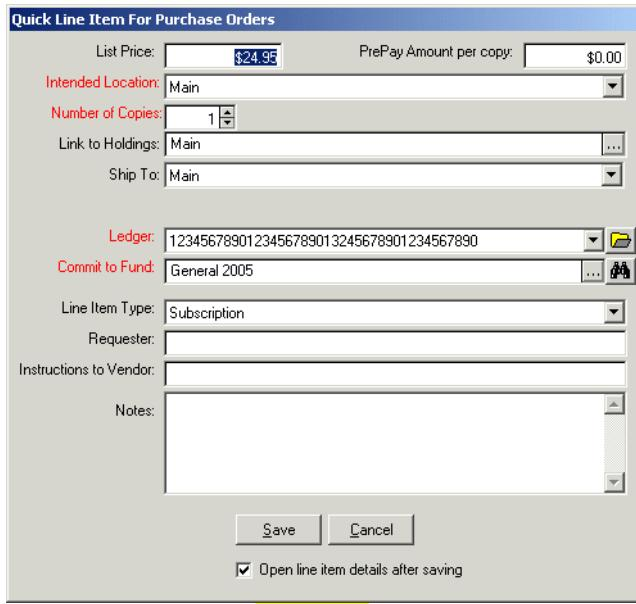

Figure 13-11. Quick Line Item dialog box - ellipsis displayed beside the Link to Holdings field
- The **ellipsis** button beside the **Link to Holdings** field on the **Quick Line Item** dialog box. The Quick Line Item feature provides a way for you to improve the efficiency of line item and purchase order creation by presenting only required and commonly-used information. The **Quick Line Item** dialog box opens (Figure 13-11) allowing you to enter basic line item information in a single spot rather than over a number of tabs. See Quick Line Item on page 6-28 for more information.